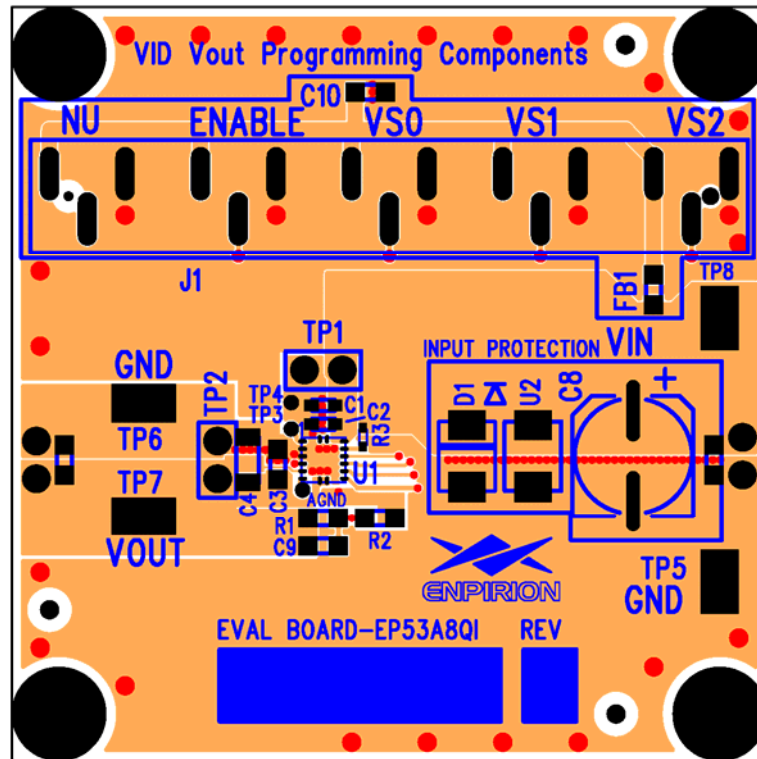

Figure 1. Evaluation Board Layout
This application note describes how to test the EP53A8LQI and the EP53A8HQI converters using the Enpirion EP53A8QI Eval Board shown in Fig. 1. In addition to this document you will also need the device datasheet for a thorough evaluation of the power converter module.
STEP 2: Connect a power supply to the input test points, TP8 (+) and TP5 (-) as indicated in Figure 1. The same test points can also be used to measure the input voltage.
STEP 4: Connect the load to the output connectors TP7 (+) and TP6 (-), as indicated in Figure 1. The same test points are also used to measure the DC output voltage.